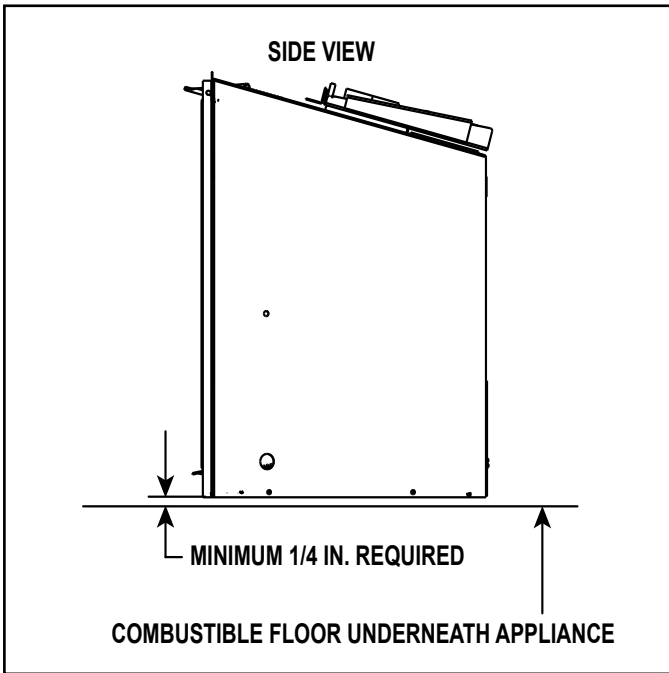
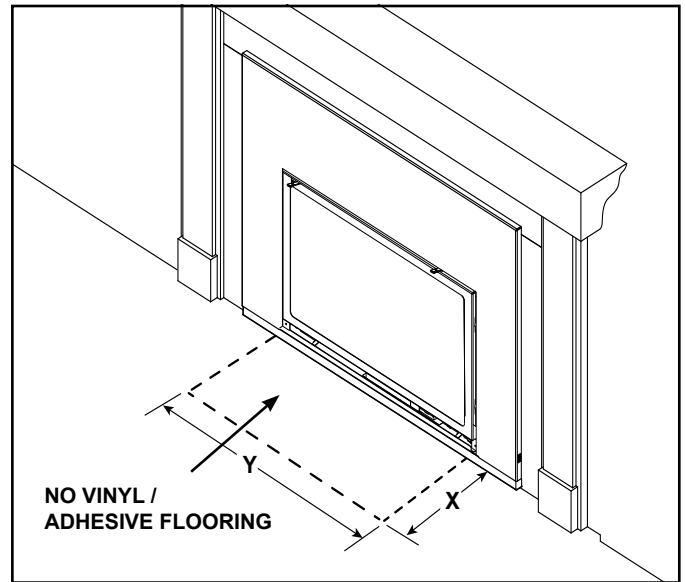

Figure 3.18 Solid Fuel Combustible Floor Clearance
Figure 3.20 Hearth - Combustible Material Exception
- A minimum 1/4 inch gap from the bottom of the appliance to the metal floor of the solid fuel firebox is **REQUIRED**. See side view in Figure 3.18.
- Combustible flooring underneath the appliance is acceptable with a 1/4 inch gap. See Figure 3.18.
Vinyl flooring is sensitive to heat. To avoid damage to the vinyl flooring, a 12 inch minimum x 12 inch minimum hearth is recommended when using vinyl flooring up to the wall. See Figure 3.18. If no hearth is used, it is recommended to provide a minimum of 24 inches of clearance in front of the appliance to the vinyl flooring OR the bottom of the appliance should be raised a minimum of 24 inches off of the floor to allow the vinyl flooring to be installed up to the wall. See Figure 3.20.